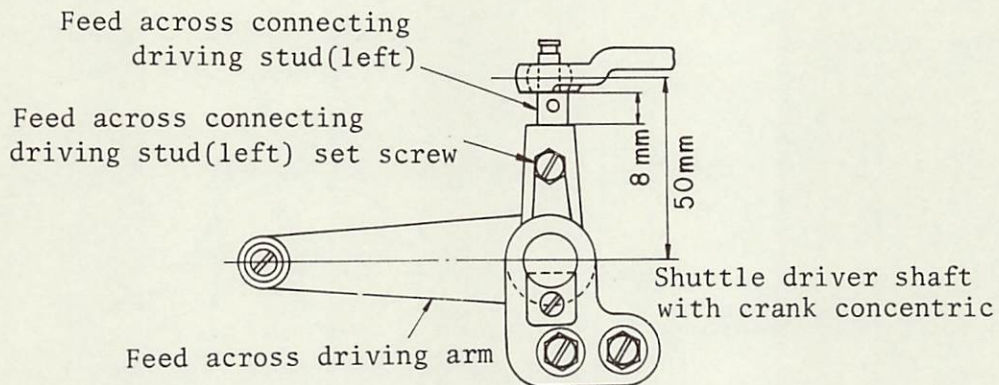

Fig.51
### 3) Adjusting the left and right indicating lines(Fig.51)
- \* The standard concentric between the shuttle driver shaft with crank and the ball joint is 50mm(1-31/32") but please note that if it's lengthened, the stitches will be small and if it's shortened, the stitches will become big. (Fig.51)